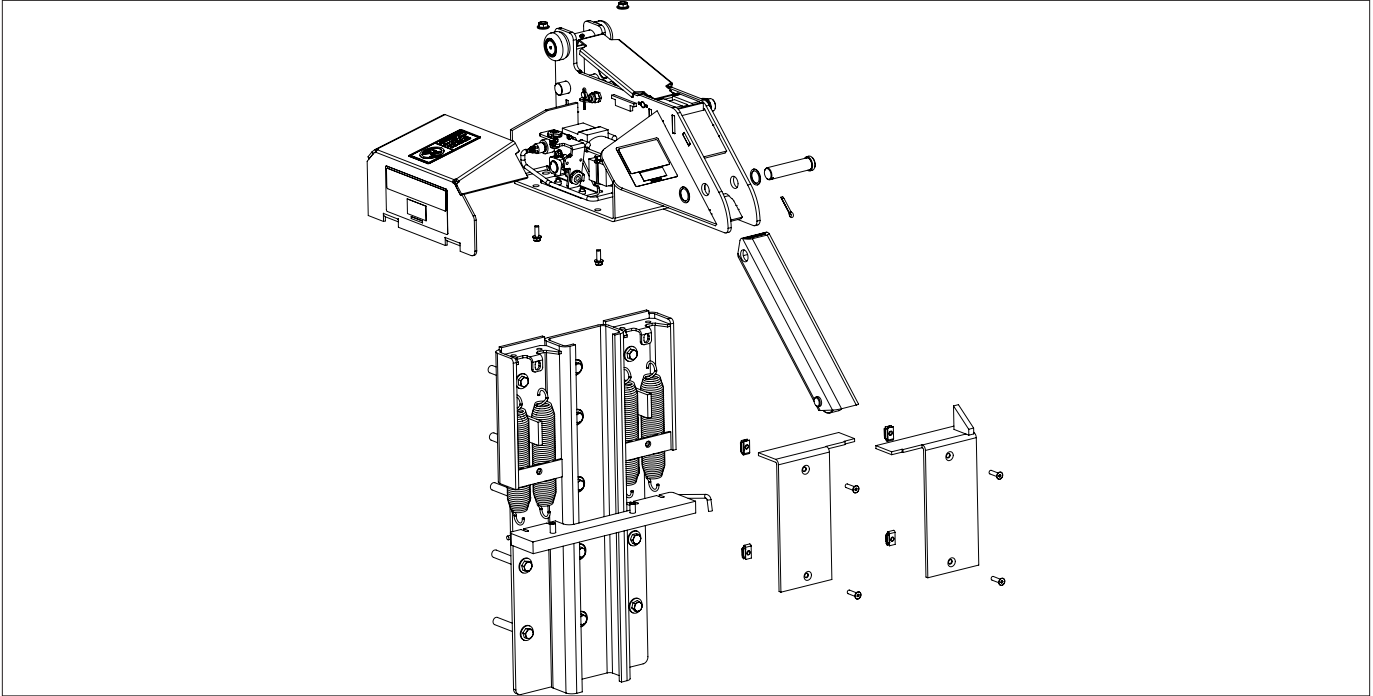

FIGURE 6—INSTALLING CARRIAGE ASSEMBLY INTO ROLLER TRACK
- Attach the four (4) springs to the lower spring bar.
- Slide the carriage assembly into the roller track. Refer to Figure 6.